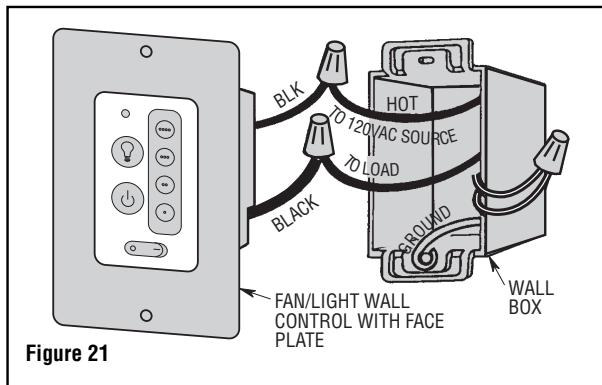

Figure 21
12. Connect one black wire of wall control to the "hot" wire. Securely connect wires with wire connectors supplied (Figure 21).